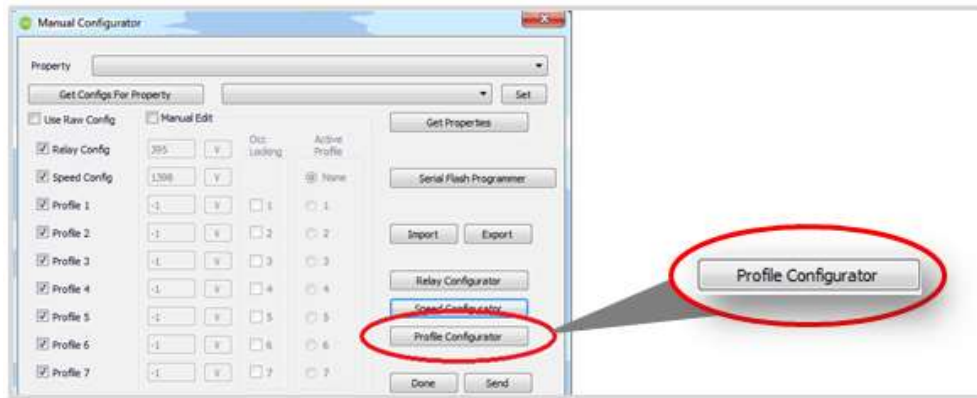

Figure 12
15. Next click the **Profile Configurator** button (Figure 12).